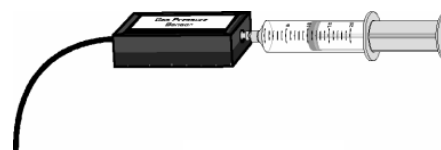

Figure 3
- You can also attach the 20 mL plastic syringe included with the Gas Pressure Sensor directly to this stem, as shown here in Figure 3.